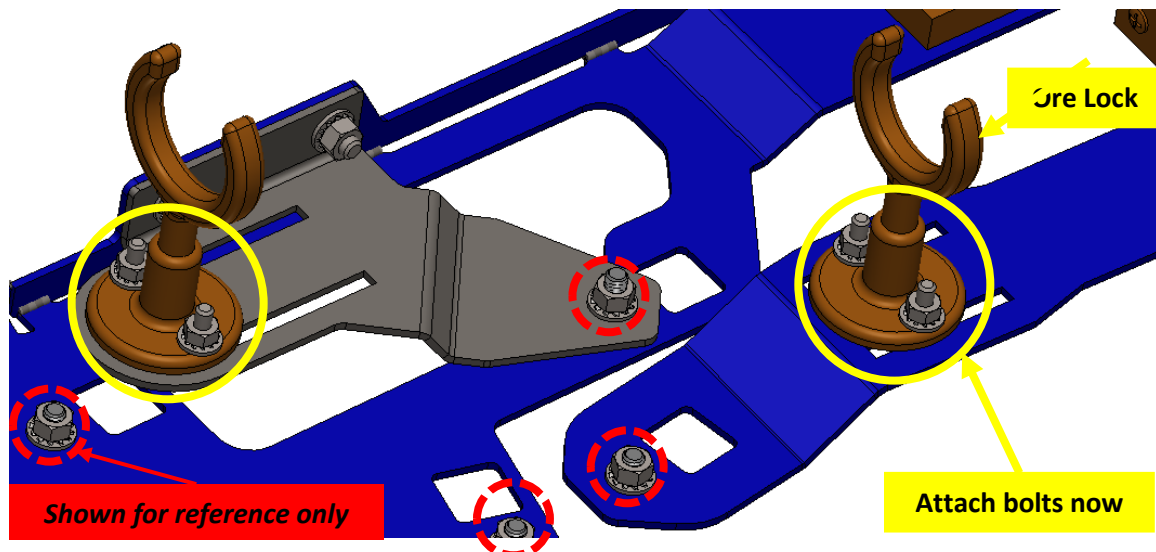

Figure 7 - Ore Locks attached to RAPTOR-301 and RAPTOR-303 (734 KIT ONLY)
- 9.4.2. Remove Ore Locks from Air Horn package and discard their included hardware. Attach Ore Locks onto Medium and Large Horn Bracket using hardware #4, #6, #8, and #14, as shown circled in Figure 7 below.